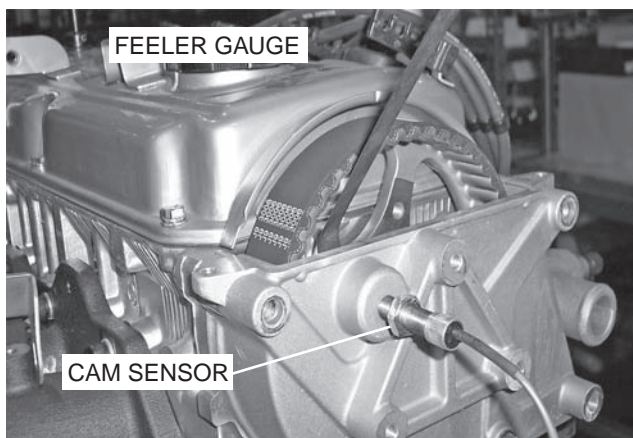

Figure 10
2. Using a brass or non-ferrous feeler gauge, verify the gap on the cam sensor to the cam pin and magnet. Cam sensor gap specifications; 0.015" ± 0.001" (Figure 10).